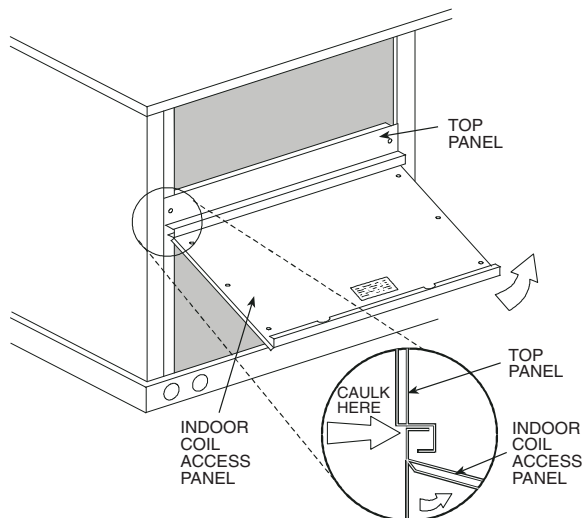

Fig. 24 — Indoor Coil Access Panel Relocation (Size 07-14 Shown)
1. The indoor coil access panel will be used as the top of the hood. Remove the screws along the sides and bottom of the indoor coil access panel. See Fig. 24.